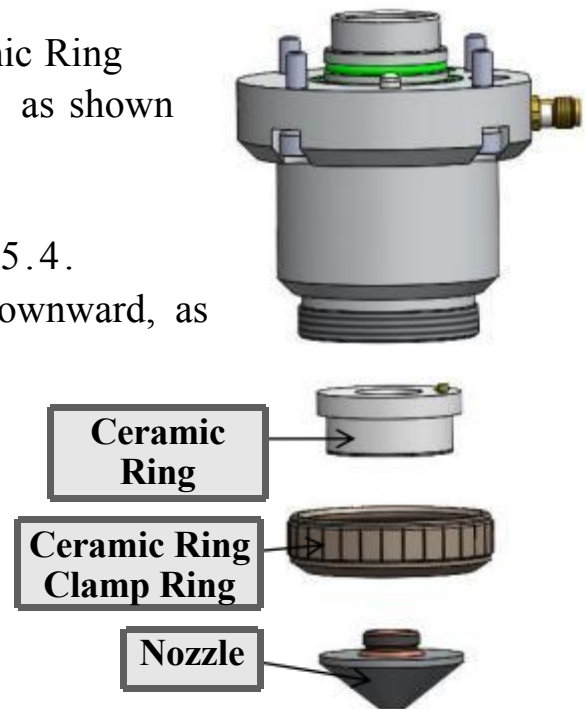

Figure 5.4
- ① Dry and clean auxiliary gas should be used when cutting. If there is water, oil and other impurities in the gas, the mutations may occur at working clearance, even causing work disorder of the sensor. It is suggested to use high purity oxygen and configure the gas dryer, oil-water separator and other devices.
- ② The sensor should be cleaned after being defaced, with clean and dry cotton wipers. Do not use liquid to clean the cutting head and ceramic, and then connect to the proper assembly after cleaning.
- ③ The ceramic ring can be replaced after being damaged. Initialization of electrical system together with the amplifier should be conducted through a reset operation.
- ④ Prescriptive cutting nozzle should be used because the shape and size of it would directly affects the characteristics of the sensor.
- ① Remove the nozzle counterclockwise, as shown in Figure 5.4.
- ② Remove the ceramic clamp ring counterclockwise, as shown in Figure 5.4.
- ③ Remove the ceramic ring vertically downward, as shown in Figure 5.4.